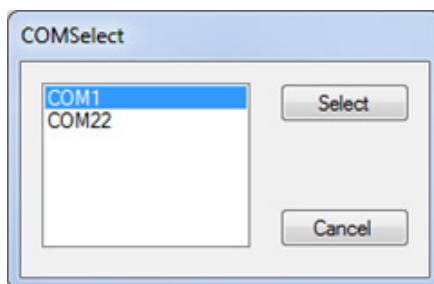

Figure 2 – COM Port Selection Window
3. Select the associated COM port from the **COMSelect** window (Figure 2). Click **SELECT**. Observe that the connect status in the lower left corner of the **E1150 FCSW** window reads **Connected**.